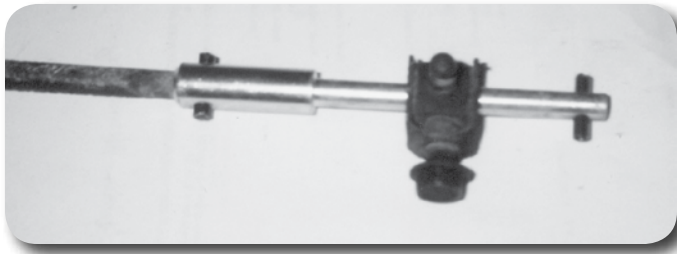

Figure 6
35. Slide the adjuster sleeve onto the extension by aligning the flats on each piece. Leave loose for adjustment. Install a 3/16" x 3/4" roll pin in the end of the extension to retain the adjuster sleeve. **Figure 6** shows the modified linkage assembly.